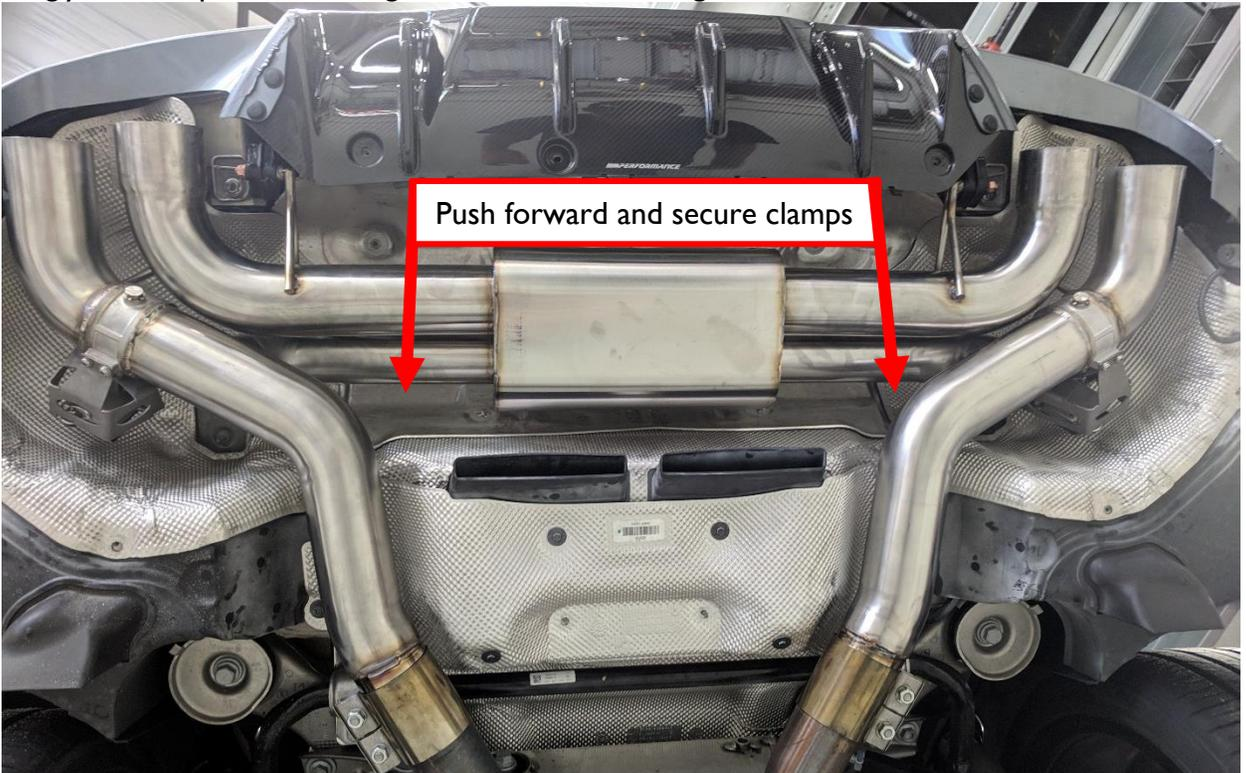

Figure 8
- Attach the Dinan Exhaust to the car, push the exhaust towards the front of the car and snugly the clamps, but allowing for movement. See Figure 8.